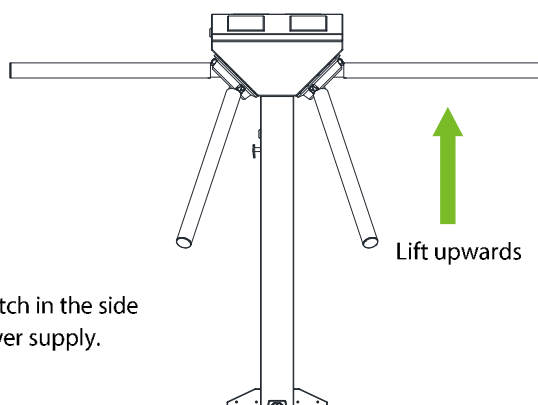

Figure 2-4
3. Lift the arms manually, as shown in figure 2-4.